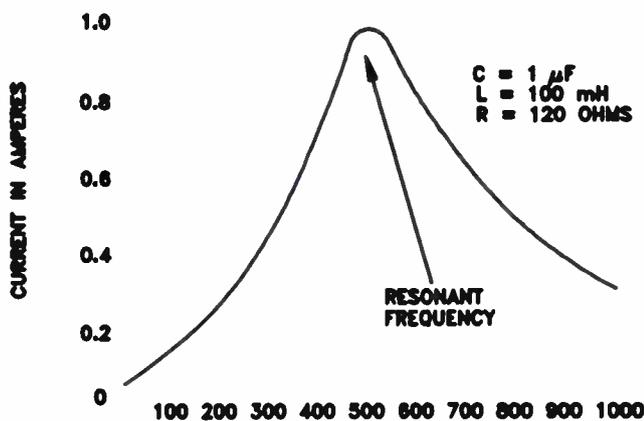

Figure 8. How current varies in a series resonant circuit when C is 1  $\mu\text{F}$ , L is 100 mH, R is 120 ohms, and f is varied from 0 to 1,000 hertz.
**Varying f.** If we vary the frequency applied to the combination of 100 mH coil and 1  $\mu\text{F}$  capacitor, circuit current varies like the curve shown in Fig.8. At zero frequency there is no current flow because dc will not flow through the capacitor. As frequency increases, current increases. This happens because, even though capacitive